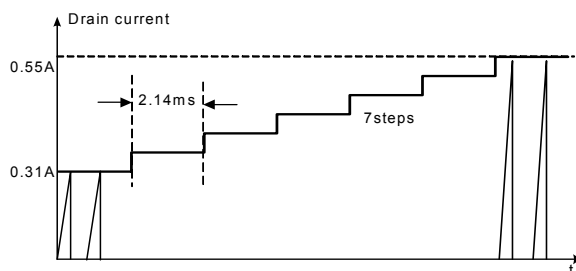

Figure 9. Internal Soft Start
**5. Soft Start :** The FPS has an internal soft start circuit that slowly increases the feedback voltage together with the Sense FET current after it starts up. The typical soft start time is 15msec, as shown in Figure 9, where progressive increments of the Sense FET current are allowed during the start-up phase. The pulse width to the power switching device is progressively increased to establish the correct working conditions for transformers, inductors, and capacitors. The voltage on the output capacitors is progressively increased with the intention of smoothly establishing the required output voltage. It also helps to prevent transformer saturation and reduce the stress on the secondary diode.